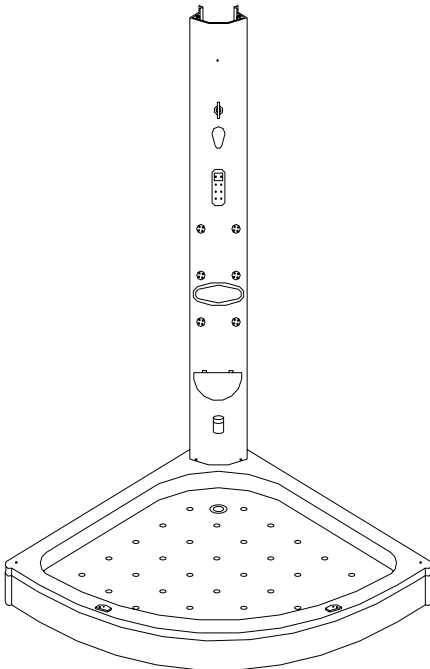

fig. 4
3、 Install the middle wall ----Use 2 sets of M10 x40 screw bolts, screw into the screw holes in the lower end of the middle wall, then plunge into the hole of the basin, use the nut to join and fasten. As fig. 4 shows: